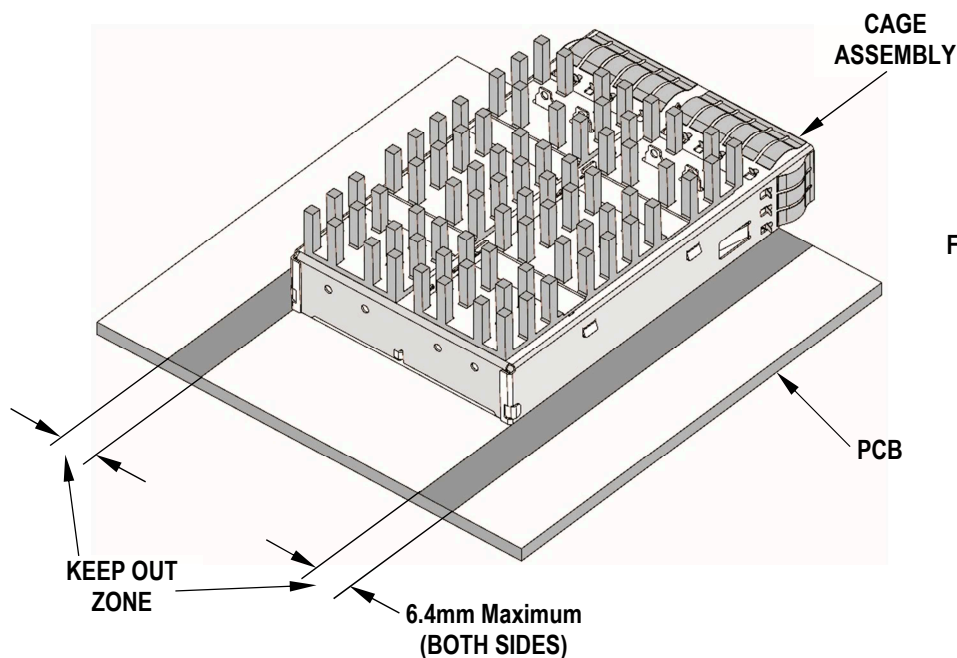

Figure 1
2. This tool requires a "Keep Out Zone" to be free of components. The tool overhangs the rear of the cage to allow for light pipe options. The right and left sides should be .25" (6.4mm). See Figure 1.